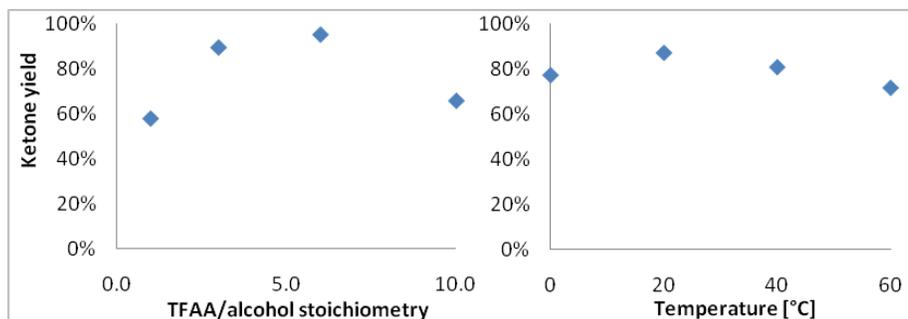

Figure 4: Influence of stoichiometry and temperature on yield of Ketone
**1-Phenyl ethanol.** The optimisation results for 1-phenyl ethanol show different trends. Firstly, the optimal stoichiometry (around *basic experiment* parameters) lies at approximately 5. Secondly, there is a somewhat more pronounced temperature effect, with an optimum around room temperature. The results of this univariate analysis are plotted in Figure 4.